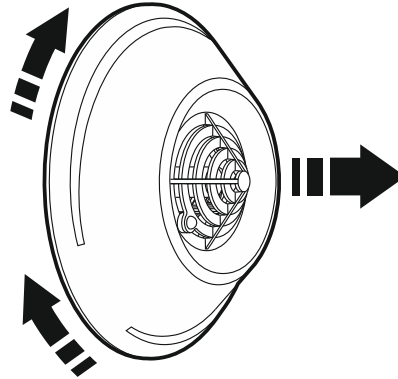

Fig. 2. Opening the detector enclosure.
1. Open the detector enclosure (Fig. 2).